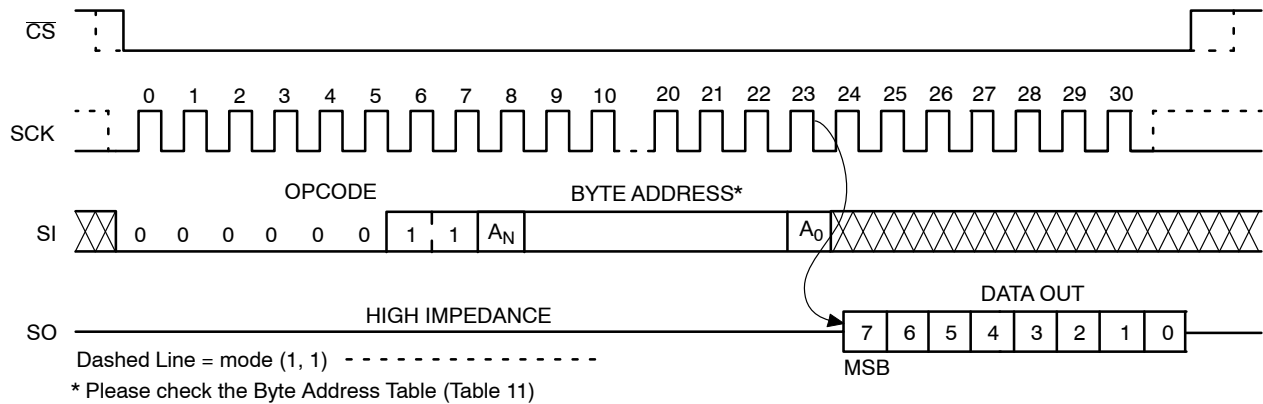

Figure 9. READ Timing
After receiving the last address bit, the CAT25512 will respond by shifting out data on the SO pin (as shown in Figure 9). Sequentially stored data can be read out by simply continuing to run the clock. The internal address pointer is automatically incremented to the next higher address as data is shifted out. After reaching the highest memory address, the address counter “rolls over” to the lowest memory address, and the read cycle can be continued indefinitely. The read operation is terminated by taking $\overline{\text{CS}}$ high.
Reading the additional 128-byte Identification Page (IP) is achieved using the same Read command sequence as used for Read from main memory array (Figure 9). **The IPL bit from the Status Register must be set (IPL = 1) before attempting to read from the IP.** The [A6:A0] are the address significant bits that point to the data byte shifted out on the SO pin. If the $\overline{\text{CS}}$ continues to be held low, the internal address register defined by [A6:A0] bits is automatically